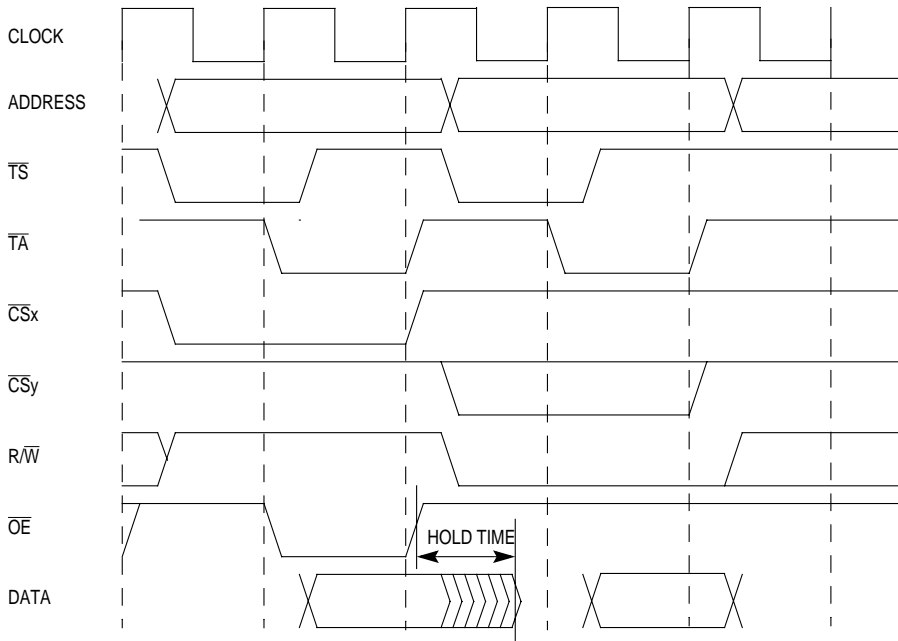
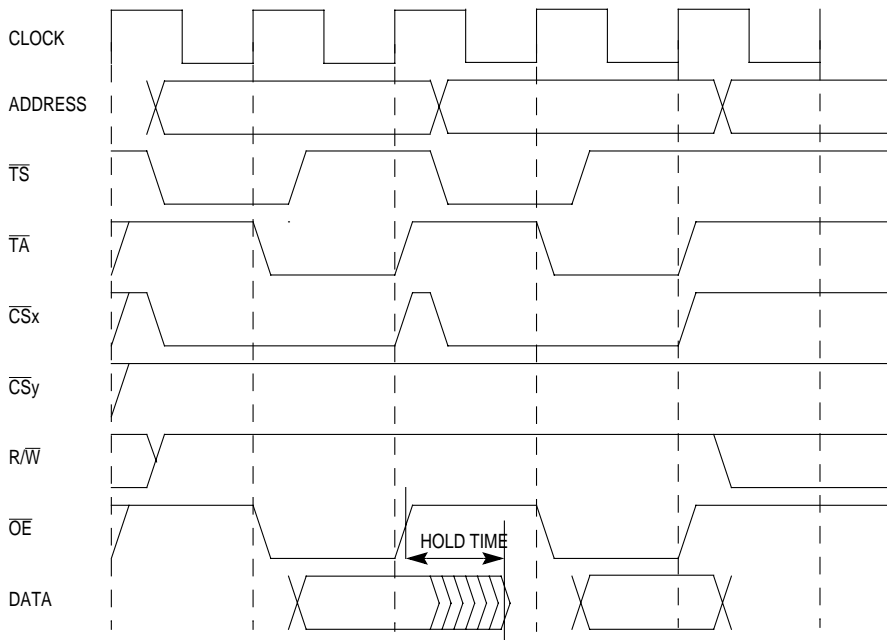

Figure 15-13. GPCM Read Followed By Write (EHTR = 0)
Figure 15-16. GPCM Read Followed By Read From Same Bank (EHTR = 1)
**15.4.1.2 EXTENDED HOLD TIME ON READ ACCESSES.** Slow memory devices that require a long delay on data read accesses must set the EHTR field in the corresponding option register. Any GPCM access to the external bus following a read access to the slower memory bank is delayed by one clock cycle, unless it is a read access to the same bank. Refer to Figure 15-13 through Figure 15-16 for details.